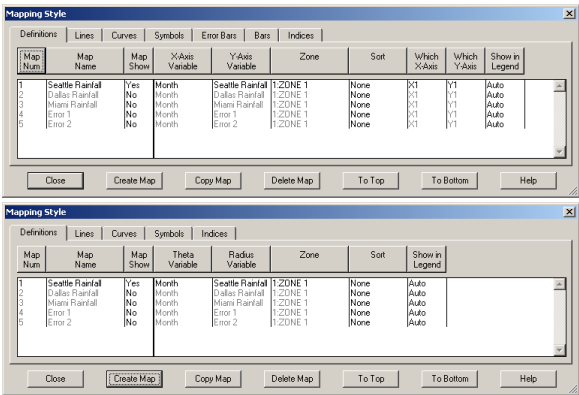

Figure 8-2. The Definitions page of the Mapping Style dialog for XY Line plots (top) and for Polar Line plots (bottom).
1. From the Plot menu, select Mapping Style. The Mapping Style dialog appears. You may also open this dialog by clicking Mapping Style on the sidebar, or double clicking any mapping in the plot. Figure 8-2 shows the Mapping Style dialog for each line plot type when the demo file `rainfall.plt` is loaded.